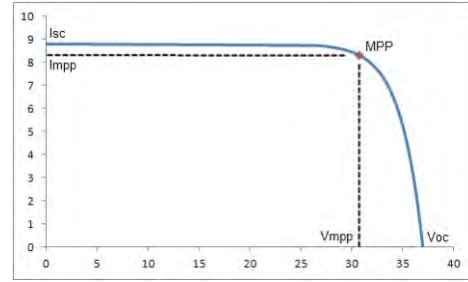

fig. 4 - 3
- In the photovoltaic simulation the parameters for the photovoltaic simulation can be configured. The application also renders the photovoltaic curve calculated with the entered values. It reads the voltage and current measurements of the power supply and displays these in the graph. Figure 4 - 5 shows the “Photovoltaic Simulation” application.